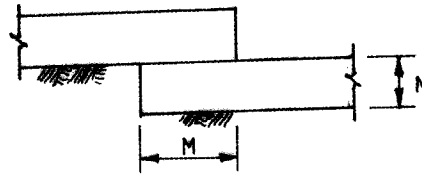

FIGURE 2
- 7 (a) Figure 2 shows the elevation of a stepped foundation at the change of ground level.